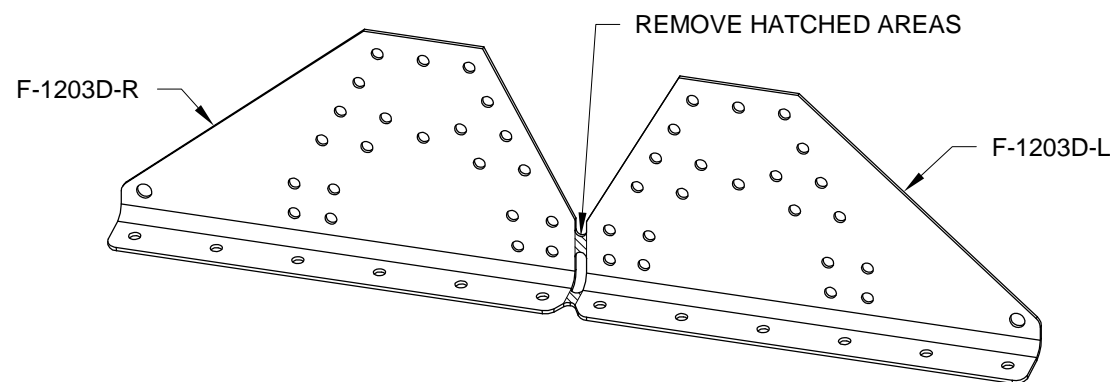

FIGURE 3: F-1203D STUB SPAR RECEPTACLE SUPPORT
Step 5: Separate the F-1203D Stub Spar Receptacle Support by removing the material shown in Figure 3.